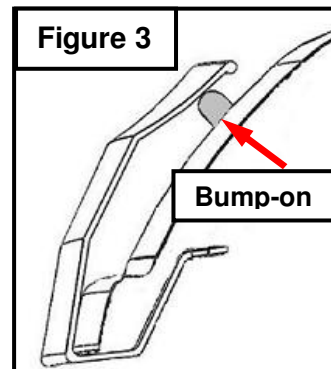

Figure 3
- Attach rubber bump-on to the factory hood where the corners of the Hood Shield are closest to the hood. **(Figure 3)** **Clean area first with isopropyl alcohol and remove adhesive backing from bump-on and apply to hood.**